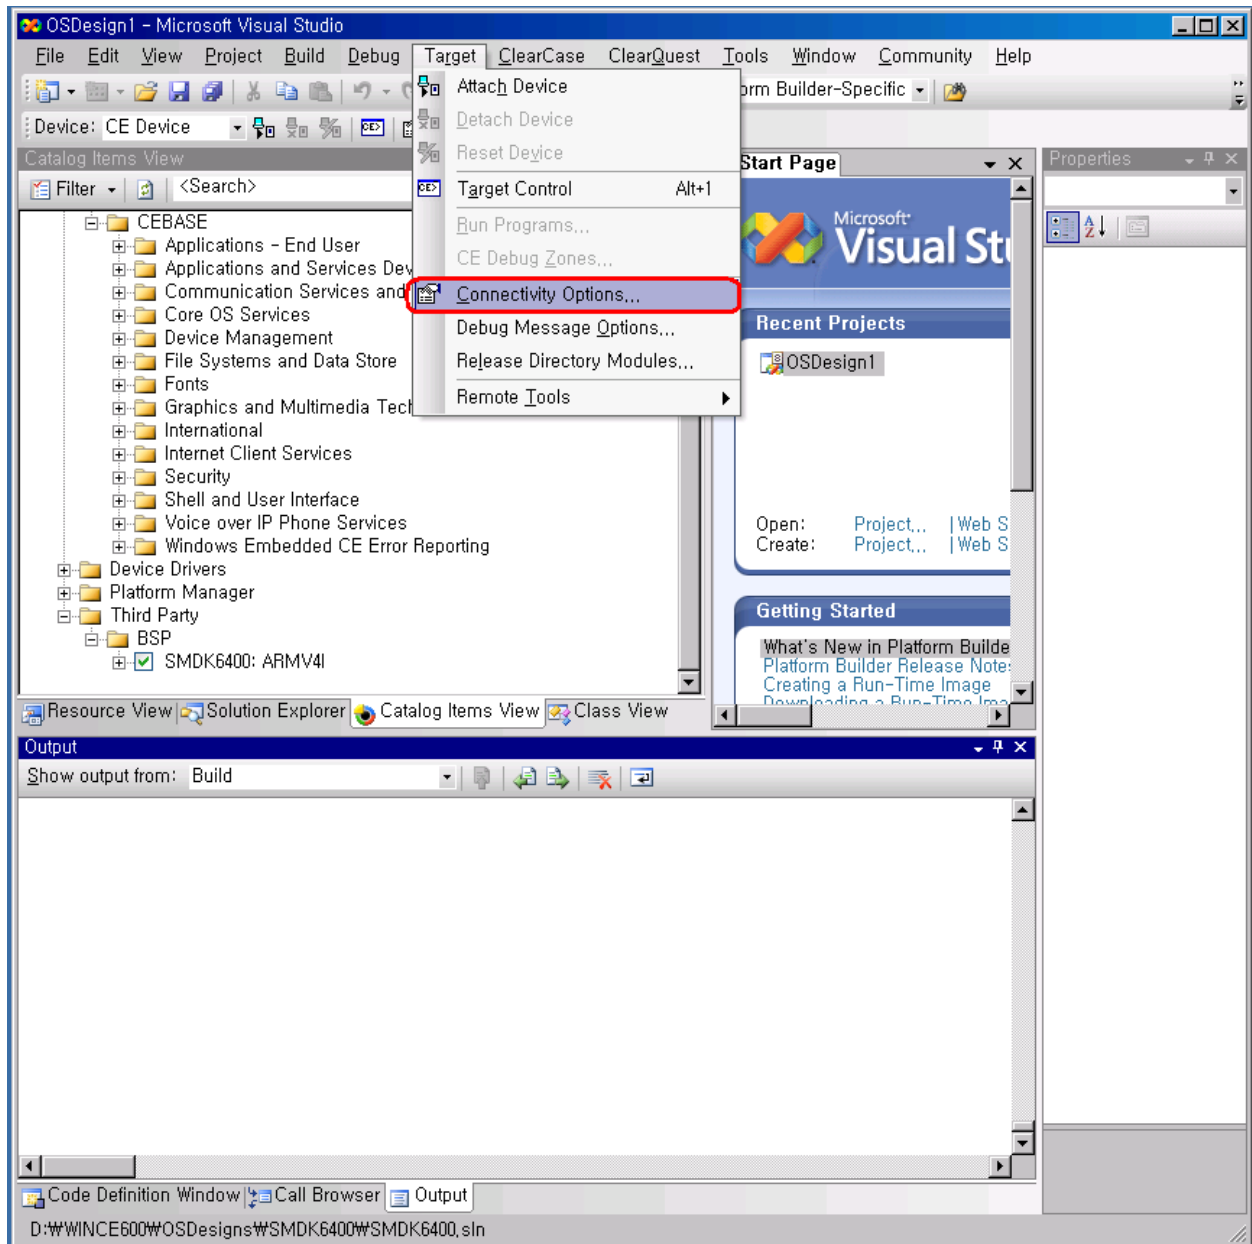

Figure 7-8 Target Connectivity Option
11. On the **Target** menu in the **Visual Studio 2005** window, click **Connectivity Options...** as shown below. **Target Device Connectivity Options** window appears on your screen as shown in figure 7-8.